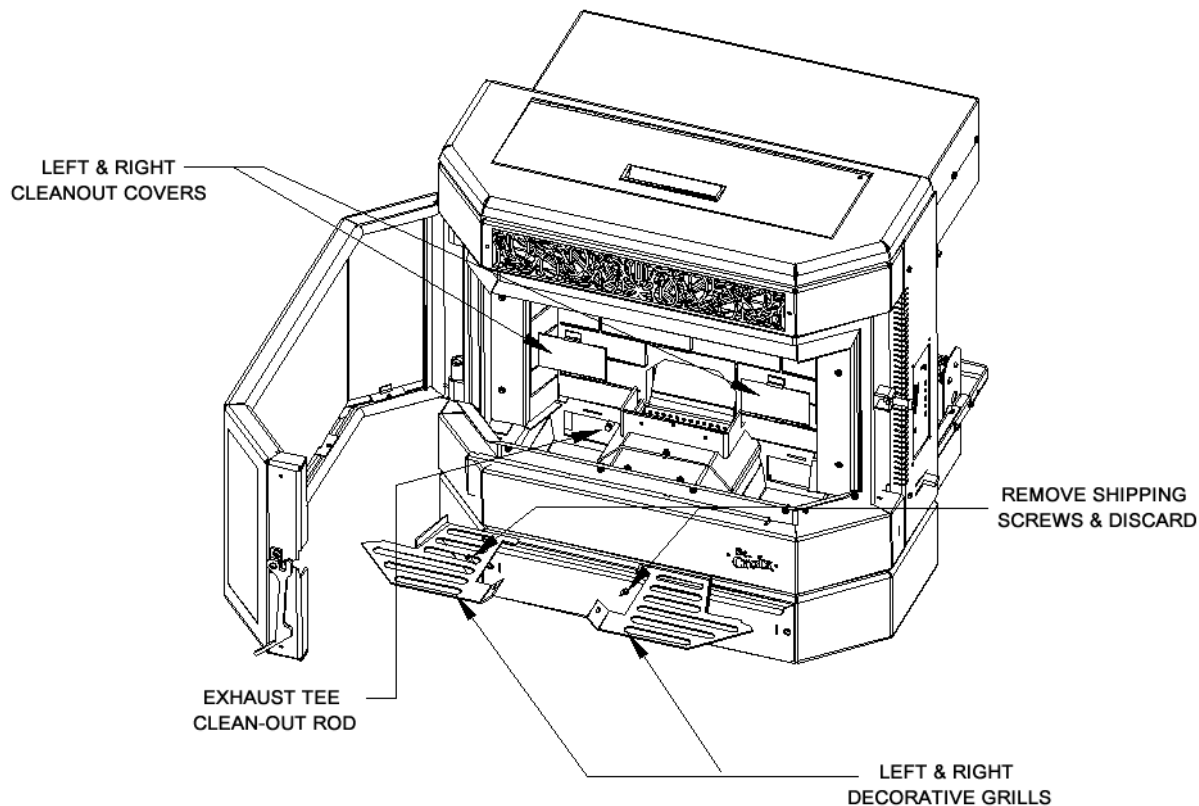
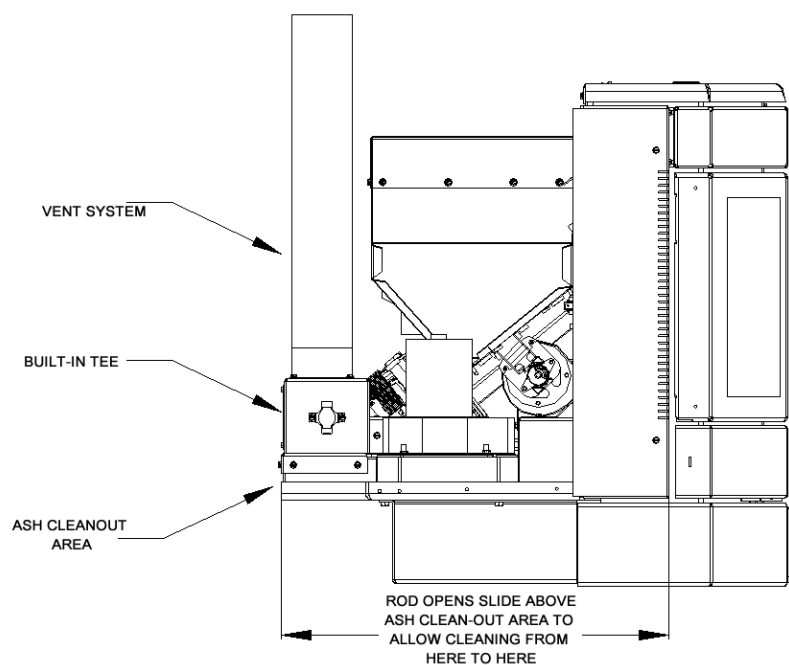

Figure 27
Figure 28
Figure 27 also shows the location of the Exhaust Tee clean-out rod. The insert has a built in cleanout to be able to vacuum the buildup that accumulates in the vent system from the front of the unit without having to pull the unit from the fireplace. Figure 28 shows the area that can be reached with a vacuum cleaner without having to pull the insert from the fireplace. Cleaning this area on a regular basis will prevent the vent system from becoming plugged with fly-ash. The recommended size of the hose to use for vacuuming this area is 1.25" outside diameter.
5. **Exhaust System.** See Figure 27, 28 and 29 for information on cleaning fly ash that collects in the vent system. Periodic cleaning of the exhaust system is required. Under certain conditions chimneys may plug up rapidly. Dirty/High moisture content Corn, Wheat, Rye Cherry Pits or Distiller's Grain require more frequent chimney cleanings. The products of combustion will also contain small particles of fly ash. The fly ash will collect in the exhaust vent and restrict the flow of the flue gases. Ask the dealer for suggested frequency of cleaning, equipment needed and procedures for cleaning. Check the Exhaust system at least once every two months during the heating season to check the amount of ash that accumulates in the elbows or tee's of the exhaust system to determine the frequency of cleaning. **See Page 25 "Preventing Chimney Fires".**
1. **Spring Shutdown.** After the last burn in the spring let the unit cool down. Remove all fuel from the hopper and the auger. Thoroughly clean the burn pot, burn pot box, ash pan and ash traps behind the ash pan. (To locate the ash traps see figure 27 on page 44)